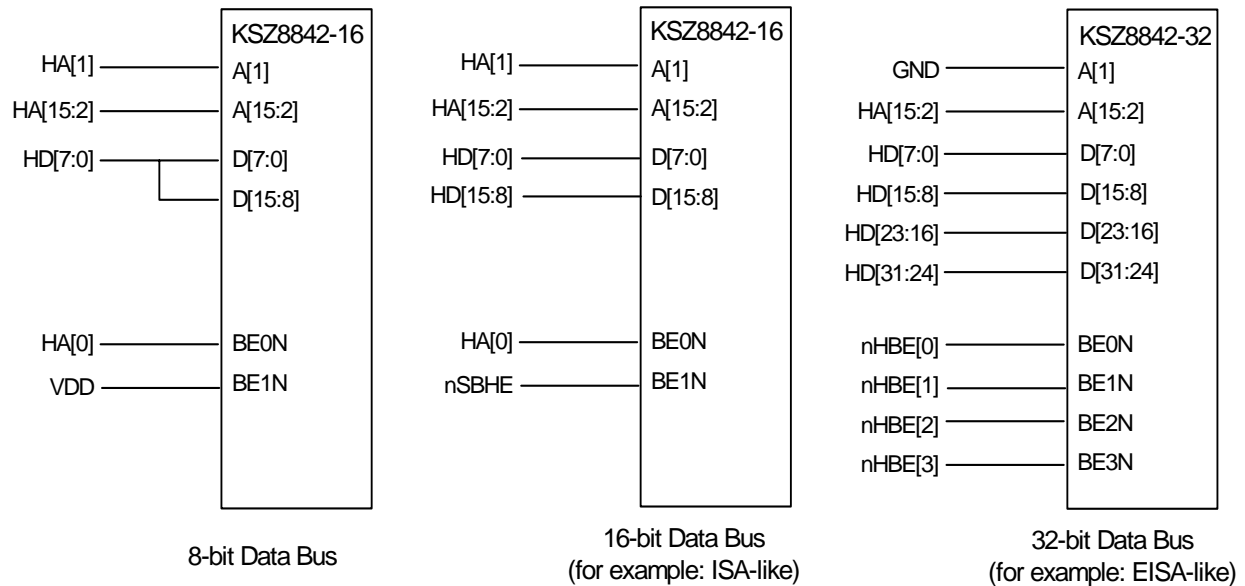

Figure 12. KSZ8842M 8-Bit, 16-Bit, and 32-Bit Data Bus Connections
Figure 12 shows the connection for different data bus sizes.
2. Internal byte swapping is not implemented and word swapping is supported internally. Refer to Figure 12 for the appropriate 8-bit, 16-bit, and 32-bit data bus connection.